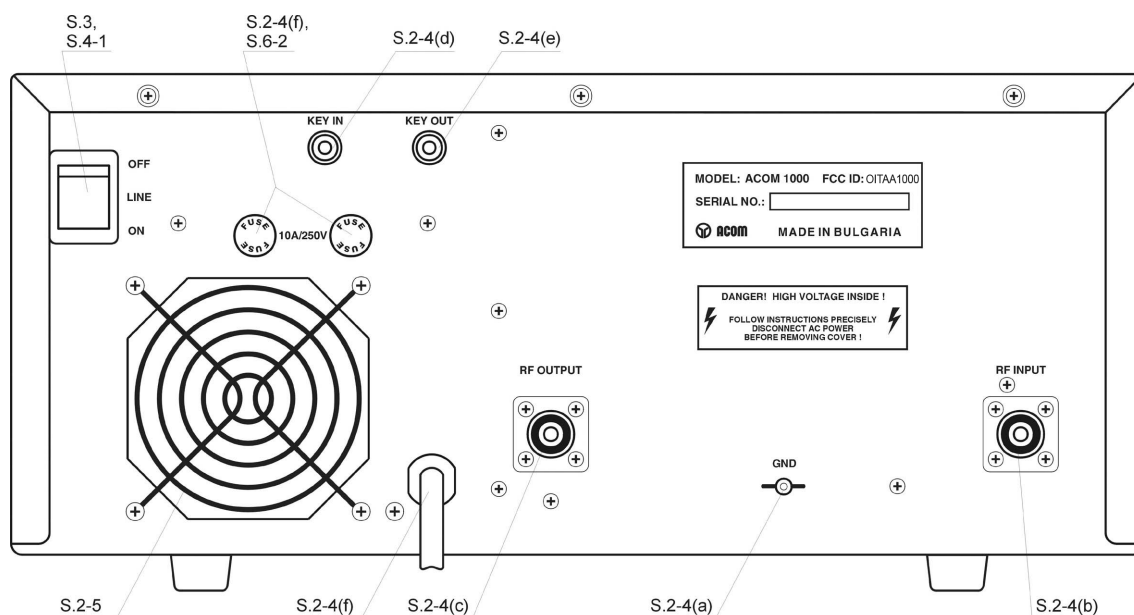
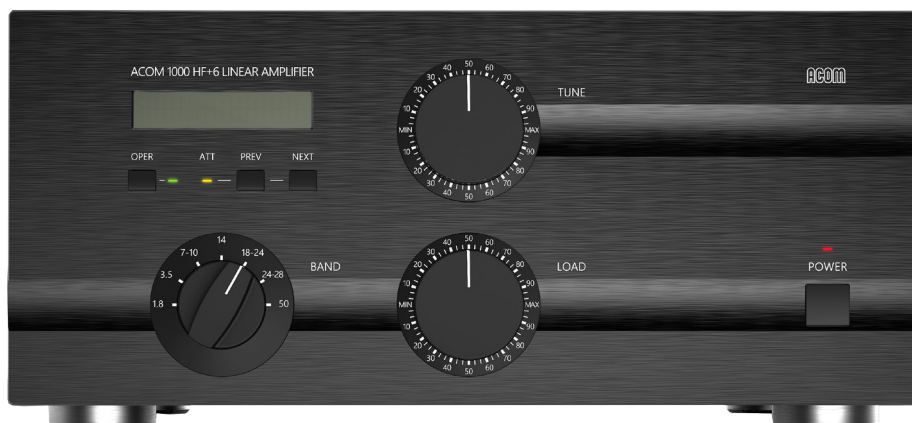

Fig.2-1 Connections
Fig.3-1 ACOM1000 Display and Control
- First, connect the ground stud of the amplifier (on the rear panel, marked GND) to the station's grounding system (Fig.2-1).
This fan (Fig. 2-1) is not necessary in SSB and CW modes, nor in continuous carrier modes (RTTY, SSTV etc.) with carrier down times of maximum 15 minutes and a subsequent pause of 3 minutes. For higher duties or increased ambient temperatures the fan is recommended. The auxiliary fan (92x92mm) must be brushless type, 2...5W/24VDC. It may be installed by your dealer or by the manufacturer on request.
After following all instructions in S.2, you can turn ON the main power switch marked “LINE” on the rear panel (Fig.2-1). The LED indicator above the red ON/OFF button located on the front panel must light red and a black inscription “ACOM1000” will appear on the OLED (Fig.3-1):